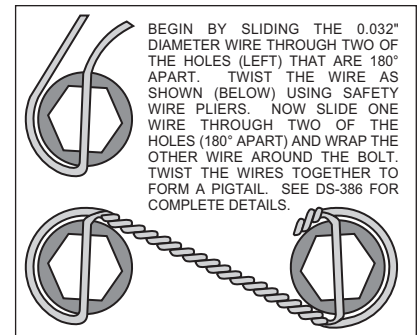

Figure 3. Safety Wire Diagram
- Attach rotor adapter (8) to rotor (9) using six bolts (10). Torque bolts (10) to 180 in-lb. Safety wire bolts (10) using standard 0.032 inch diameter stainless steel safety wire as shown in Figure 3. Please refer to Wilwood's data sheet DS-386 (available at www.wilwood.org/ds386.pdf) for complete safety wire installation instructions. **NOTE:** The flat side of the rotor (8) lugs face toward the rotor adapter (9) with the dished side of the rotor adapter (8) facing away from the rotor (9).
- Mount the adapter/rotor assembly (8 and 9) to the hub (5) using six lock washers (11) and six bolts (12). Torque bolts (12) to 22 ft-lb. Safety wire bolts (12).
- Pack the small outer bearing cone (13) with high temperature disc brake bearing grease and install into front of hub (5). Slide the hub/rotor assembly (5 and 9) with outer bearing cone (13) onto the spindle. Secure using stock washer, adjusting nut and nut locking device.
- Install the dust cap (16) onto the hub (5). Friction created by the o-ring (15) on the dust cap (16) keeps it from unscrewing. The O.D. of the existing spindle washer may be larger than the I.D. of the dust cap (16) not allowing it to seat against the hub face. Therefore, use the spindle washer (14) supplied with the kit instead of the stock washer.
- **NOTE:** Please reference the caution statement at the beginning of the assembly instructions. With the bleed screws pointing up, mount the caliper (17) onto the caliper mounting bracket (1) using lock washers (18), bolts (19) and caliper spacer (20) positioned between caliper (17) and the caliper mounting bracket (1). Finger tighten. View the rotor (9) through the top opening of the caliper (17). The rotor (9) should be aligned in the center of the caliper (17). If not, adjust the caliper (17) by using 0.032 inch thick shims (21) placed between the caliper mounting bracket (1) and the caliper (17). Add as many shim washers (21) as necessary to achieve the correct alignment. Always use the same amount of shims on both the top and bottom caliper mounting bolts (19). Finger tighten and recheck alignment, adjust as necessary. Apply red *Loctite*® 271 to bolt threads (19) and torque to 30 ft-lb. Safety wire caliper bolts (19).
- Install the disc brake pads (22) into the caliper (17). Secure the disc brake pads to the caliper utilizing cotter pin (23).